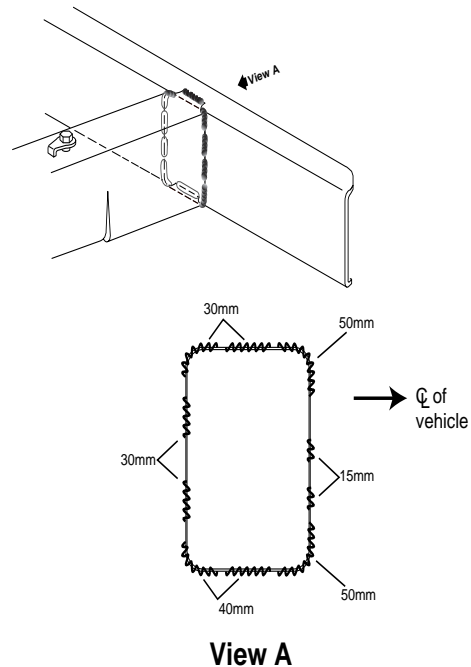

Fig. 3.5 — Weld Perimeter of Joint, as Indicated
- 4 Position the bumper impact bar using three-dimensional measuring equipment and install per the original weld locations. Stitch weld around the 'fishmouth' joint. If no trace of the original welds are present, use Fig. 3.5 as a guide for welding the side rails to the impact bar. This weld pattern will create a solid weld joint with minimal heat distortion.